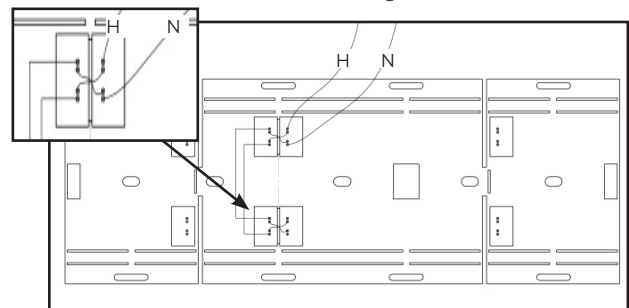

Figure 4: Fixture Bracket Wiring Diagram showing the incoming supply connection to the lamp holders and “jumped” to each port on the four (4) lamp holders.
7. Before installing the two (2) end sections and one (1) center section onto the 8-foot fixture housing, pre-wire the center section lamp holders installed in the socket plates as shown in Figure 4. Remember to have an appropriate length of at least four (4) feet of the hot and neutral incoming supply conductors to connect into the lighting circuit. Figure 4 shows the wiring connections from the incoming supply conductors and the respective terminations to each lamp holder on the socket plates.